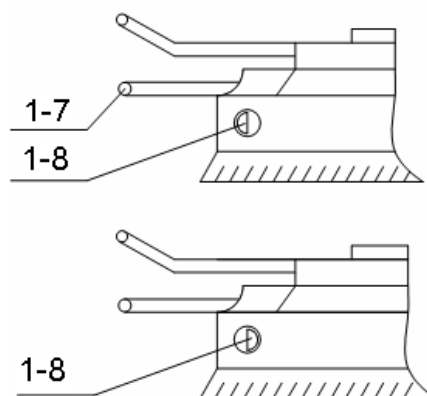

Figure 4.3
- 4.7.4 Setting stroke cutting: As shown in the Fig. 4.3, pull out the handle 1-7, and after turning the handle 1-8 to the position in the picture, turn the dial to the cutting depth desired.
Aline it with "0" in the box size, and then turn the handle 1-8 to the position shown in Fig.4.3.